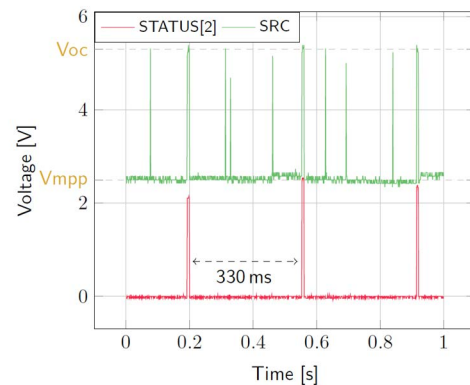

Figure 4: **SRC** and **STATUS[2]** while energy is extracted from **SRC** (**BATT** under  $V_{OVCH}$ )
- **SRC**: Regulated at  $V_{MPP}$ , which is a voltage equal to the open-circuit voltage ( $V_{OC}$ ) times the MPP ratio defined in Table 4.  $V_{SRC}$  equals  $V_{OC}$  during MPP evaluation (see Figure 4). Note that  $V_{src}$  must be higher than 380 mV to coldstart.
- **STATUS[2]**: Asserted each time the AEM30940 performs a MPP evaluation (See Figure 4).